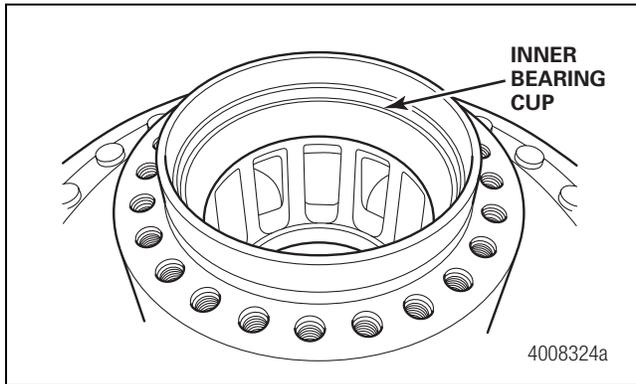

Figure 9.15
1. If removed, lubricate the hub bores and use a press and driver to install the inner and outer bearing cups into the hub assembly. Figure 9.15.